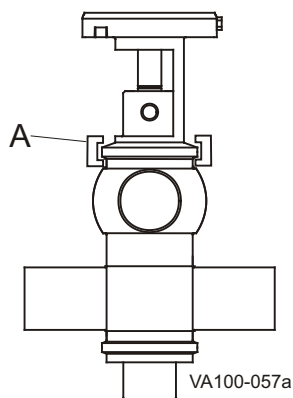

Figure 5 - Location of Adapter Clamp
5. Remove the clamp between the yoke and the adapter (Figure 5, item A).